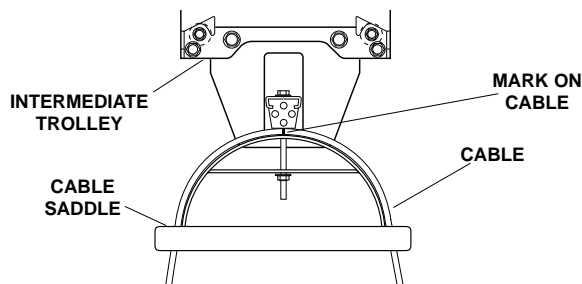

FIGURE 19—ALIGNING CABLE MARKS
4. Hang cable. All marks on cable must align with tops of saddles. See Figure 19. Arrange multiple cables per General Arrangement Drawing.
4. Hang cable. All marks on cable must align with tops of saddles. See Figure 19. Arrange multiple cables using guidelines above.